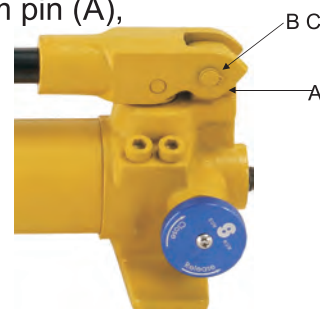

Figure 6.3.
To extend pump life and improve performance, lubricate the beam pin (A), cross pin (B), and piston head (C) regularly, using bearing grease. See Figure 6.3.